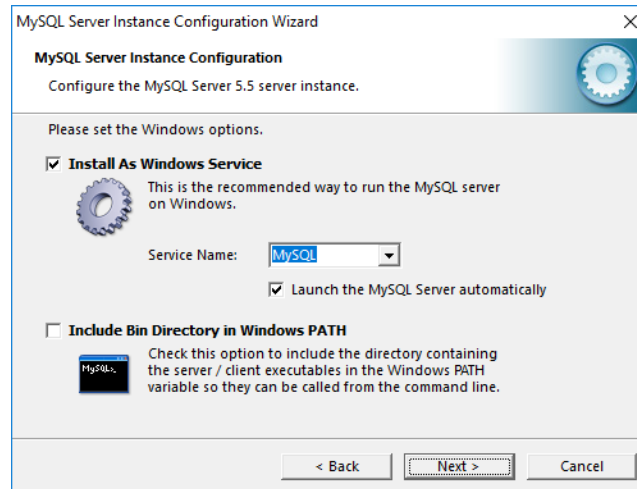

Figure A15
9. Enable "Install as a Windows Service" and select "MySQL" from the drop down list. Enable "Launch the MySQL Server automatically". Leave "Include Bin Directory in Windows PATH" deselected. Click "Next". (Figure A15)